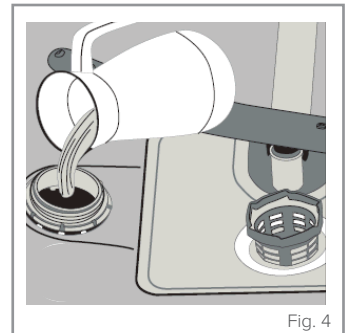

Fig. 4
2. Fill the compartment with dishwasher salt (do not use table salt), carefully to prevent unnecessary spillage. Before first use, you should fill the compartment with 1kg of dishwasher salt and then fill up the salt compartment with water (up to the brim of the compartment) as shown in Fig. 4 (page 11).